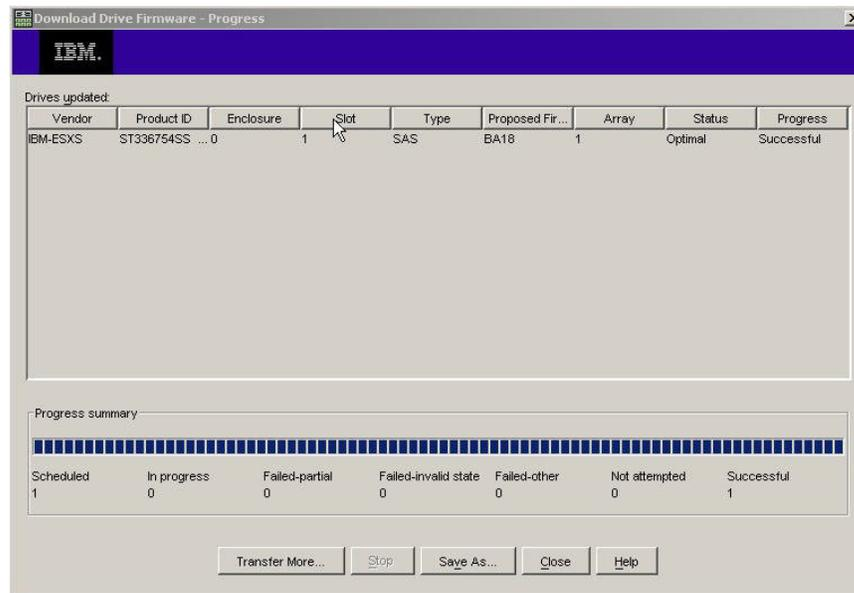

Figure 32. Download Progress window
10. When the Download Drive Firmware warning window opens and the message Do you want to continue? is displayed, type yes and click **OK** to start the drive firmware download. The Download Progress window opens, as shown in Figure 32 on page 89. Do not intervene until the download process is completed.